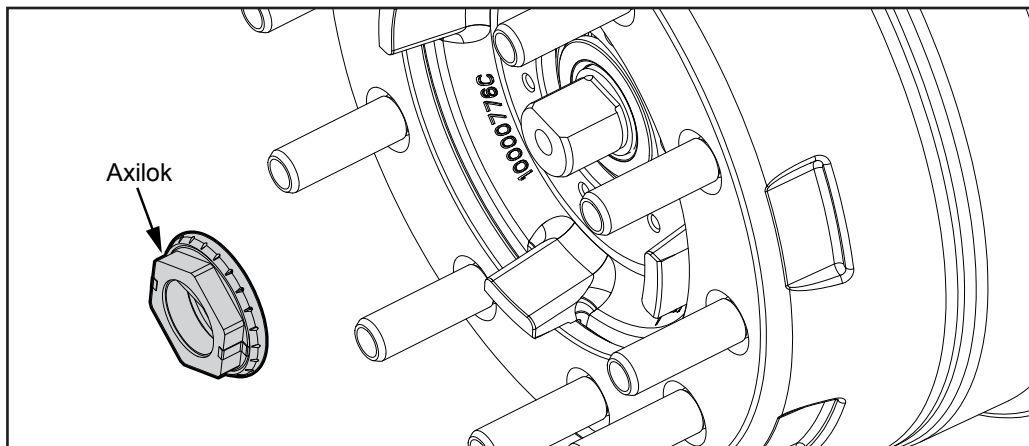

Figure 15
1. Install correct size 6-point socket completely over the hex of the Axilok. Be sure that both the locking clips are completely disengaged from the retainer cage, permitting free rotation (see Figure 15).